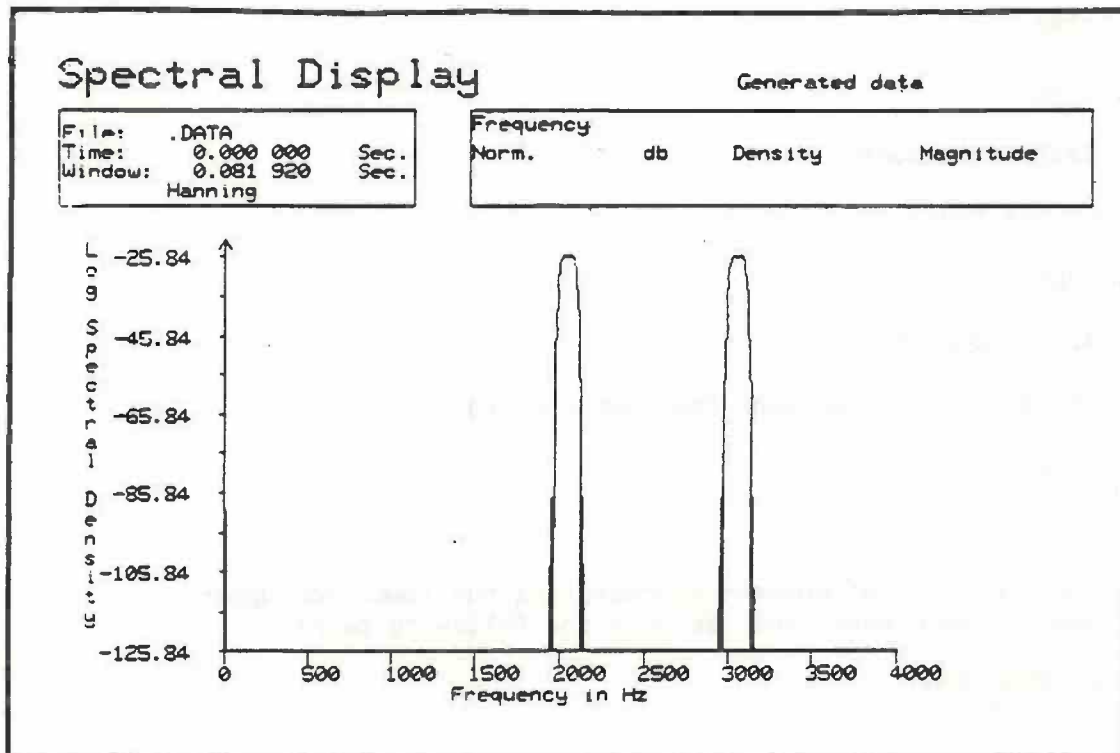

Figure 11.9
12. Position the cursor on top of one of the pass bands (frequency of 2000) and press PF2 to see the scaled up display pictured below (Figure 11.9).